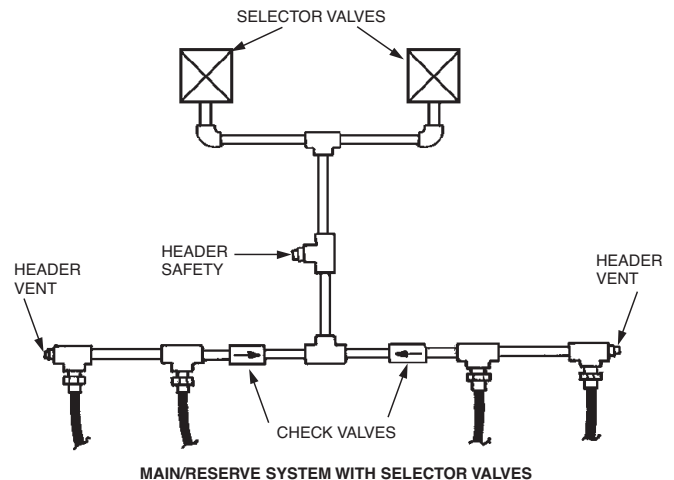

FIGURE 11
- Starting with the cylinder manifold, securely mount the manifold at the appropriate height as shown in Figure 11. Make certain that if accessories piping is to be done later that the end of the manifold contains a tee instead of an elbow. The outlet of the tee will later be reduced down to 1/4 in. for piping to the accessories.